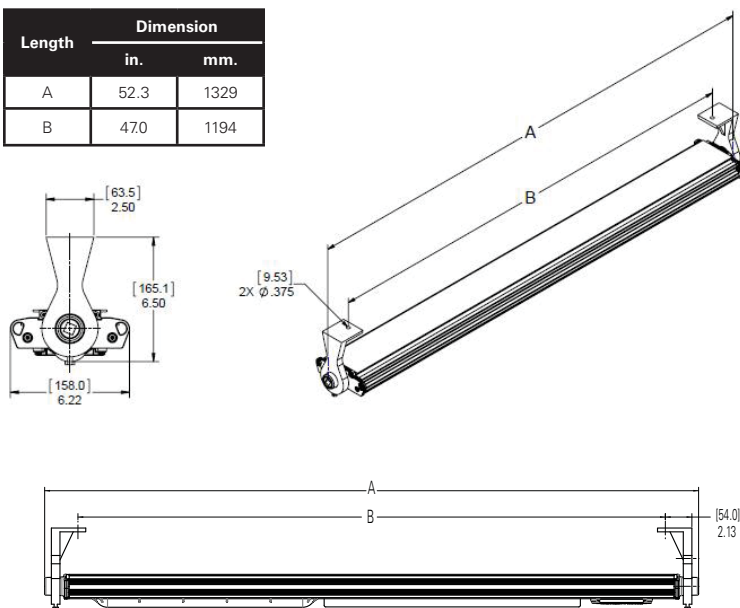

Figure 2. DP1053MTK Wall/Ceiling Mount Installation
2. Mark and drill holes for fastening end brackets. Use two (2) 1/4" bolts (not supplied) at center to center measurements (see Figure 2).
3. Fixture is now ready for mounting. It is strongly suggested to use two (2) qualified tradespeople to proceed with the final mounting of the fixture. This is recommended to avoid any personal injury or damage to the fixture.